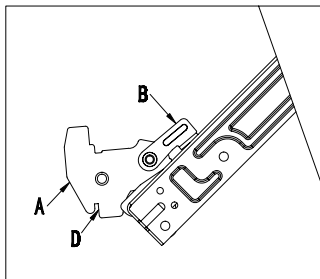

Fig. 11-1.
- Open the door completely and lift the 2 levers "B" (fig.11-1);